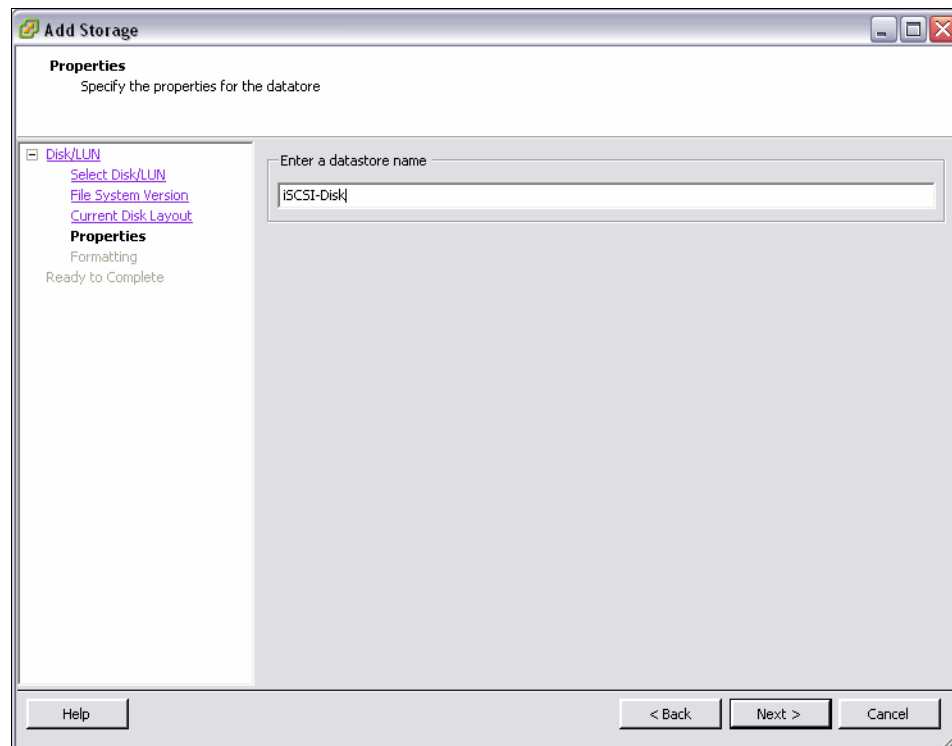

Figure 5-71 Enter a data store name
12. Enter a name for the data store and click **Next**, as shown in Figure 5-71.